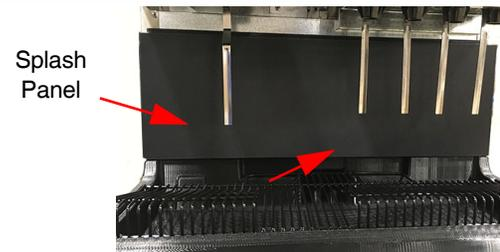

Figure 7
3. Remove Splash Panel. See Figure 7.
2. Replace the splash panel. Refer to Figure 7.